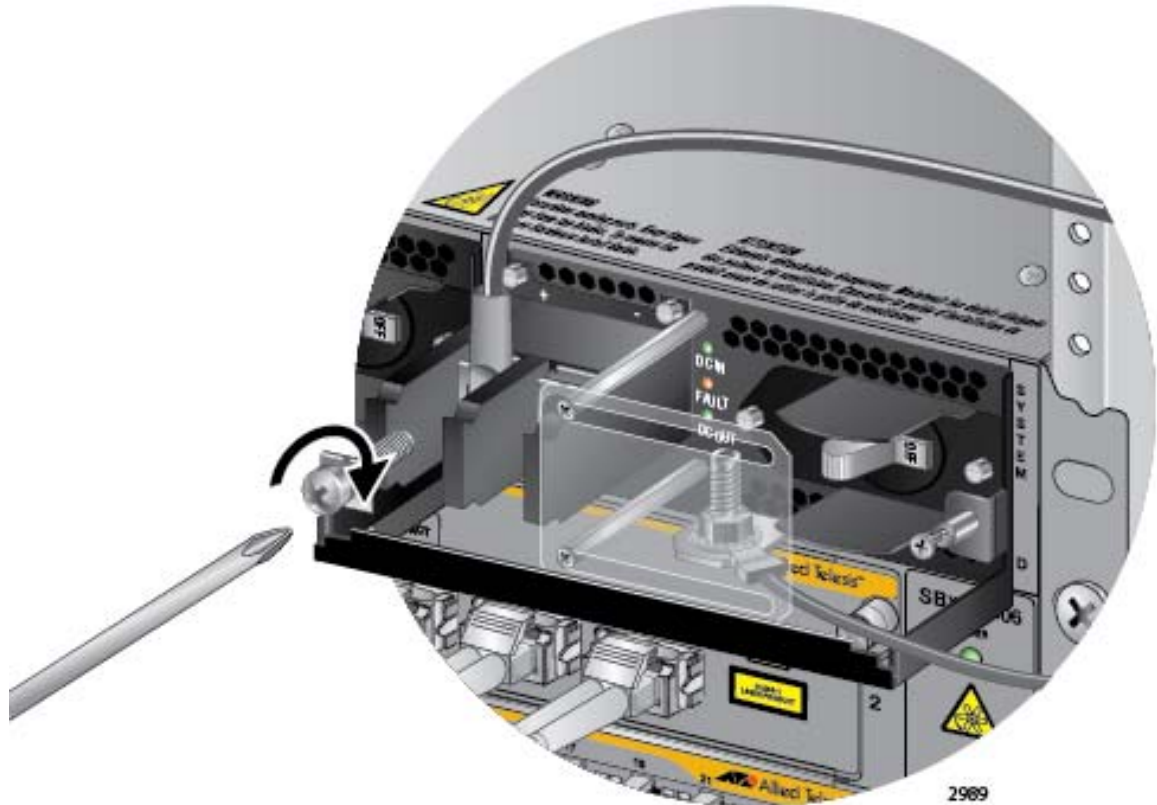

Figure 136. Connecting the Positive (+) Power Wire with a Straight Terminal
6. With a #3 Phillips-head screwdriver, connect the positive (+) power lead wire to the positive terminal on the power supply, with one of the terminal screws removed in the previous step. The positive terminal is on the left. You may attach the terminals with the wires either above or below the terminal block. Figure 136 on page 209 shows the positive wire above the terminal block.